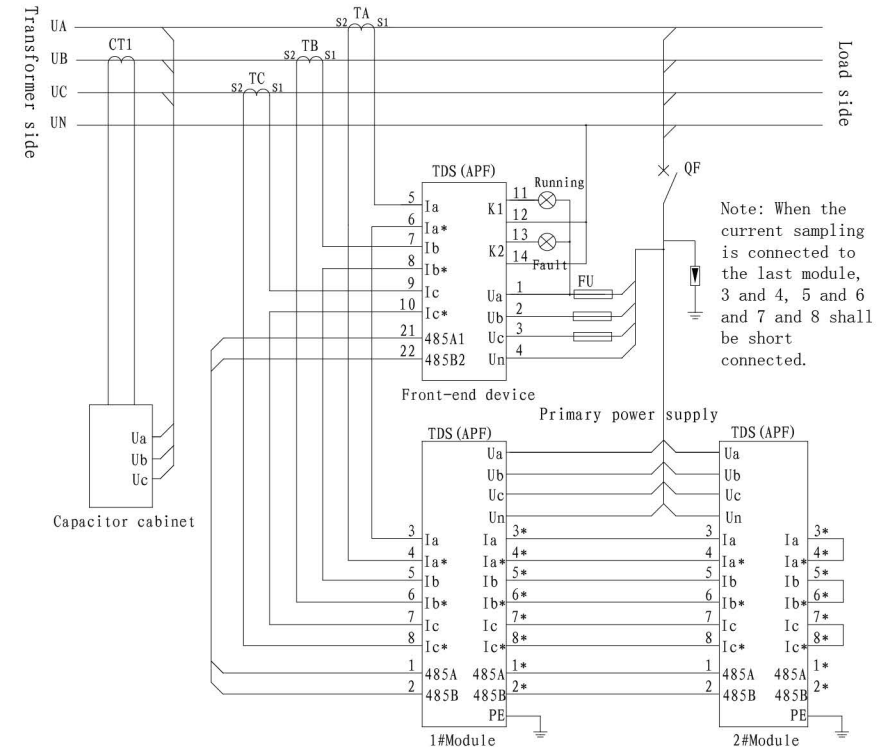

Figure 12 Wiring principle of the device
3) The wiring principle of the device is shown in Figure 12. In the figure, CT is installed on the power grid side, excluding the current of the capacitor cabinet.